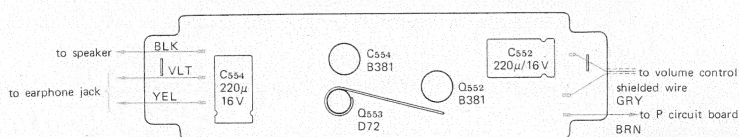

Fig. 2-3
3. Unsolder the four PVC leads and one shielded cable illustrated in Fig. 2-3.